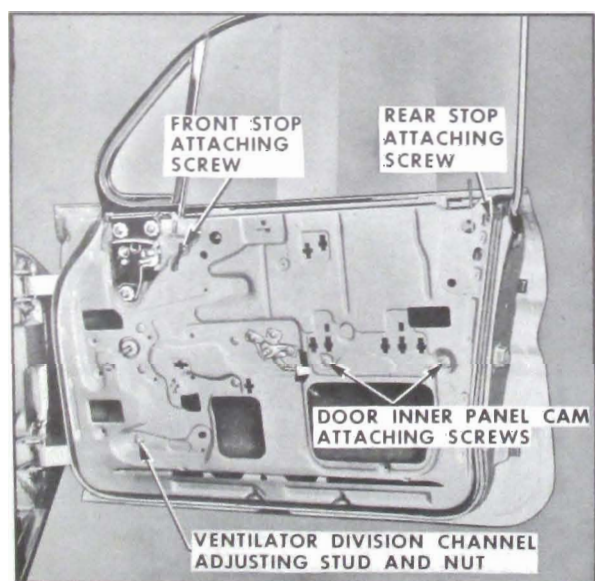

Figure 2-23—Door Window Attachment
2. Through holes in inner panel, remove screw securing window assembly front and rear stops to lower window sash channel. Then lower window slightly and remove stops (see Figure 2-23).
1. To correct a condition where glass is “cocked” in glass run channels, loosen inner panel cam attaching screws, adjust cam up or down as required and retighten screws (see Figure 2-23).
3. To adjust lower portion of ventilator division channel for alignment with window assembly, lower door window and loosen ventilator division channel adjusting stud nut. Turn adjusting stud in or out or position lower end of channel fore or aft, as required; then, retighten adjusting stud nut (see Figure 2-23).
5. To adjust limit of "up" travel of window assembly for proper contact with side roof rail weatherstrip, raise door window and through inner panel access holes loosen door window front and rear stop assembly attaching screws. Adjust stops up or down as required, then tighten attaching screws (see Figure 2-23).
stud in or out or position lower end of channel fore or aft as required; then tighten adjusting stud nut (see Figure 2-23).